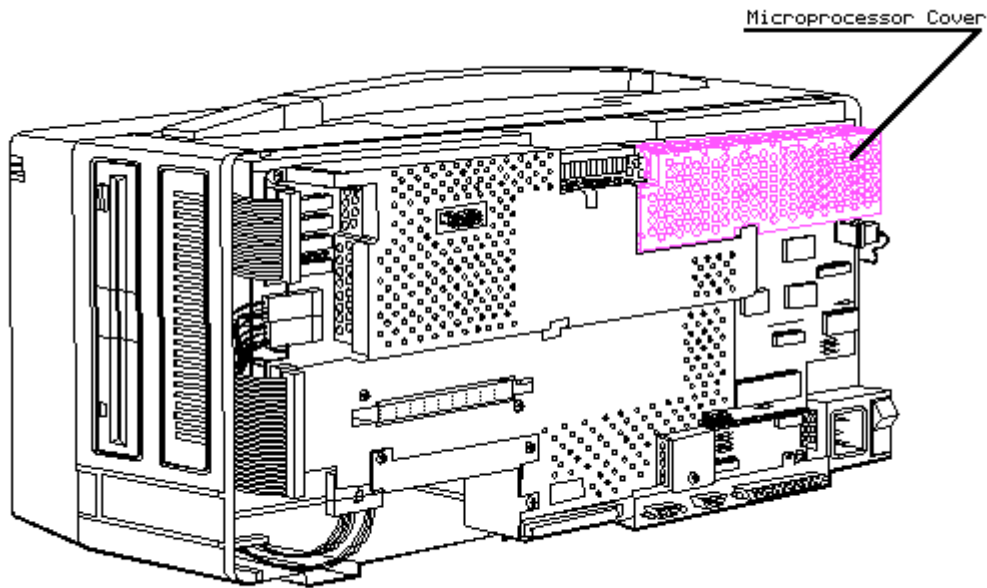

Figure 8-7. Microprocessor Cover Location
3. Locate the microprocessor cover shown in Figure 8-7.